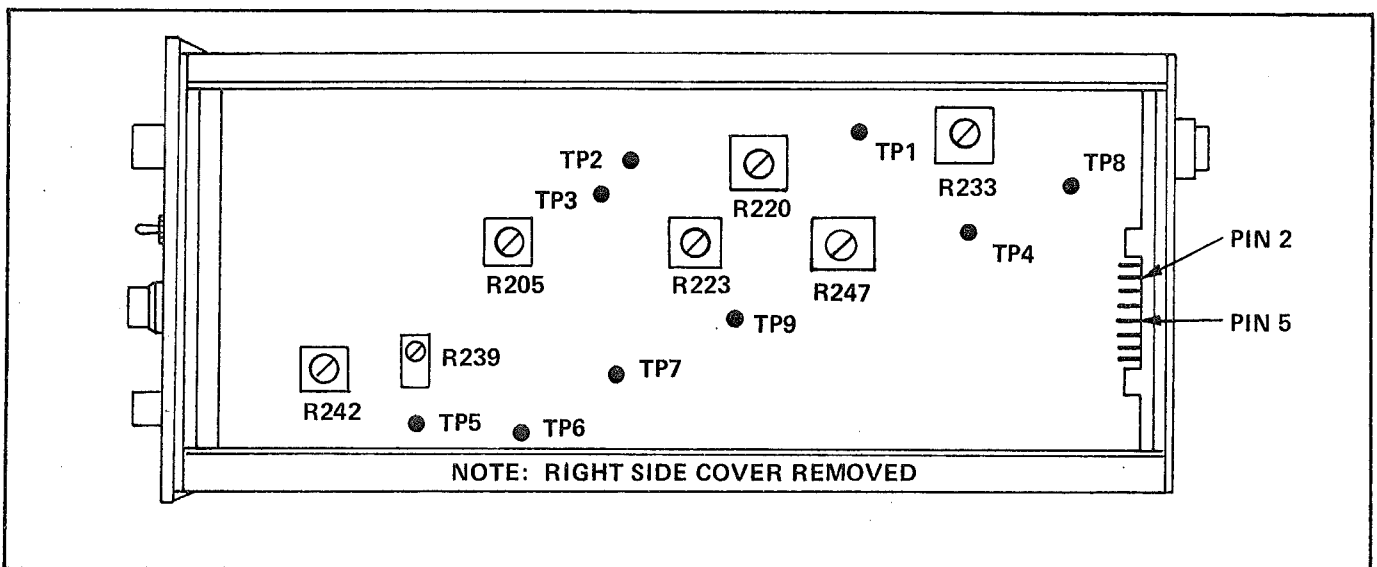

FIGURE 5-1 CALIBRATION COMPONENT LOCATION
1. Remove right side cover from preamp (Figure 5-1).
3. Connect the DVM to TP-1 (High) and TP-9 (Common). Adjust R-247 for 0 volts ± 2 mv (Figure 5-1).
4. Set the VOLTS FULL SCALE switch to 5. Connect the DVM to TP-8 (High) and TP-9 (Common). Adjust R-233 for 0 volts ± 2 mv (Figure 5-1).
2. Connect the plus (+) input to common and apply a -5V dc signal to the minus (-) input. Monitor the output with a DVM and adjust the output to read +5.0 volts ± 5 mv with the CAL 1 pot, R220 (Figure 5-1).
4. Apply a +5V dc signal low to common and high to plus input. Short plus and minus inputs together (common mode). Adjust the output to read the same as in step 3, with the CAL 2 pot, R223 (Figure 5-1).
6. Apply a 100vdc signal as in step 4 and use the input BAL pot, R205 (Figure 5-1), to adjust the output to read the same as with zero applied voltage. Remove the input voltage and check zero. Repeat the various steps if necessary. Remove jumpers.
2. Connect DVM to TP-8 (High) and TP-9 (Common). (Figure 5-1).
5. Adjust R-239 (Figure 5-1) for an output voltage of -10 volts ± 2 mv.
6. Reset the "-VOLTS+" switch to +1. Adjust R-242 for an output of -1.0 volt ± 2 mv. (Figure 5-1).
7. Reset the "-VOLTS+" switch to -1. The output should be +1.0 volt \pm 2mv. (R-242), Figure 5-1).
8. Reset the "-VOLTS+" switch to -10. The output should read +10 volts \pm 2mv. (R-239, Figure 5-1).